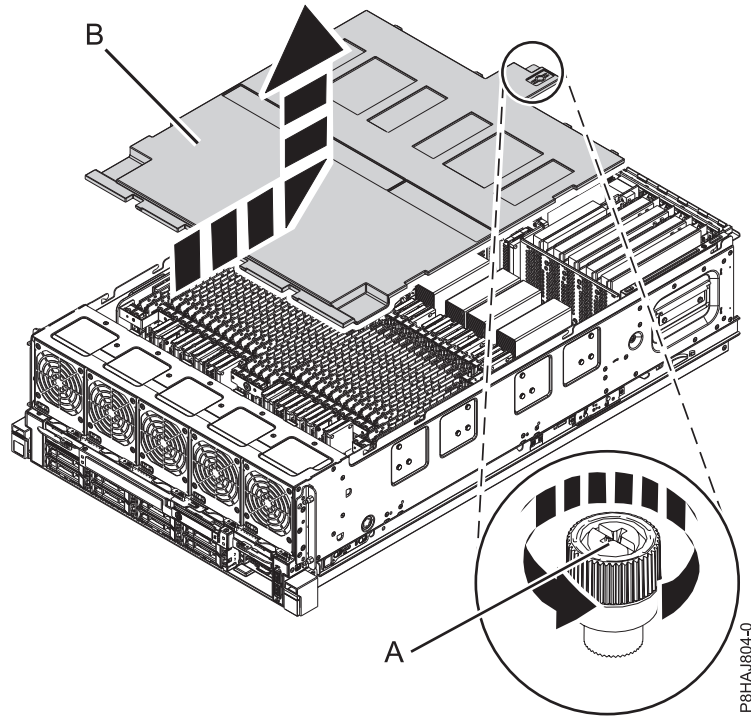

Figure 40. Removing the safety cover
2. Loosen the thumbscrew **(A)** located at the rear of the cover, by turning it in the direction shown in Figure 40 on page 57.